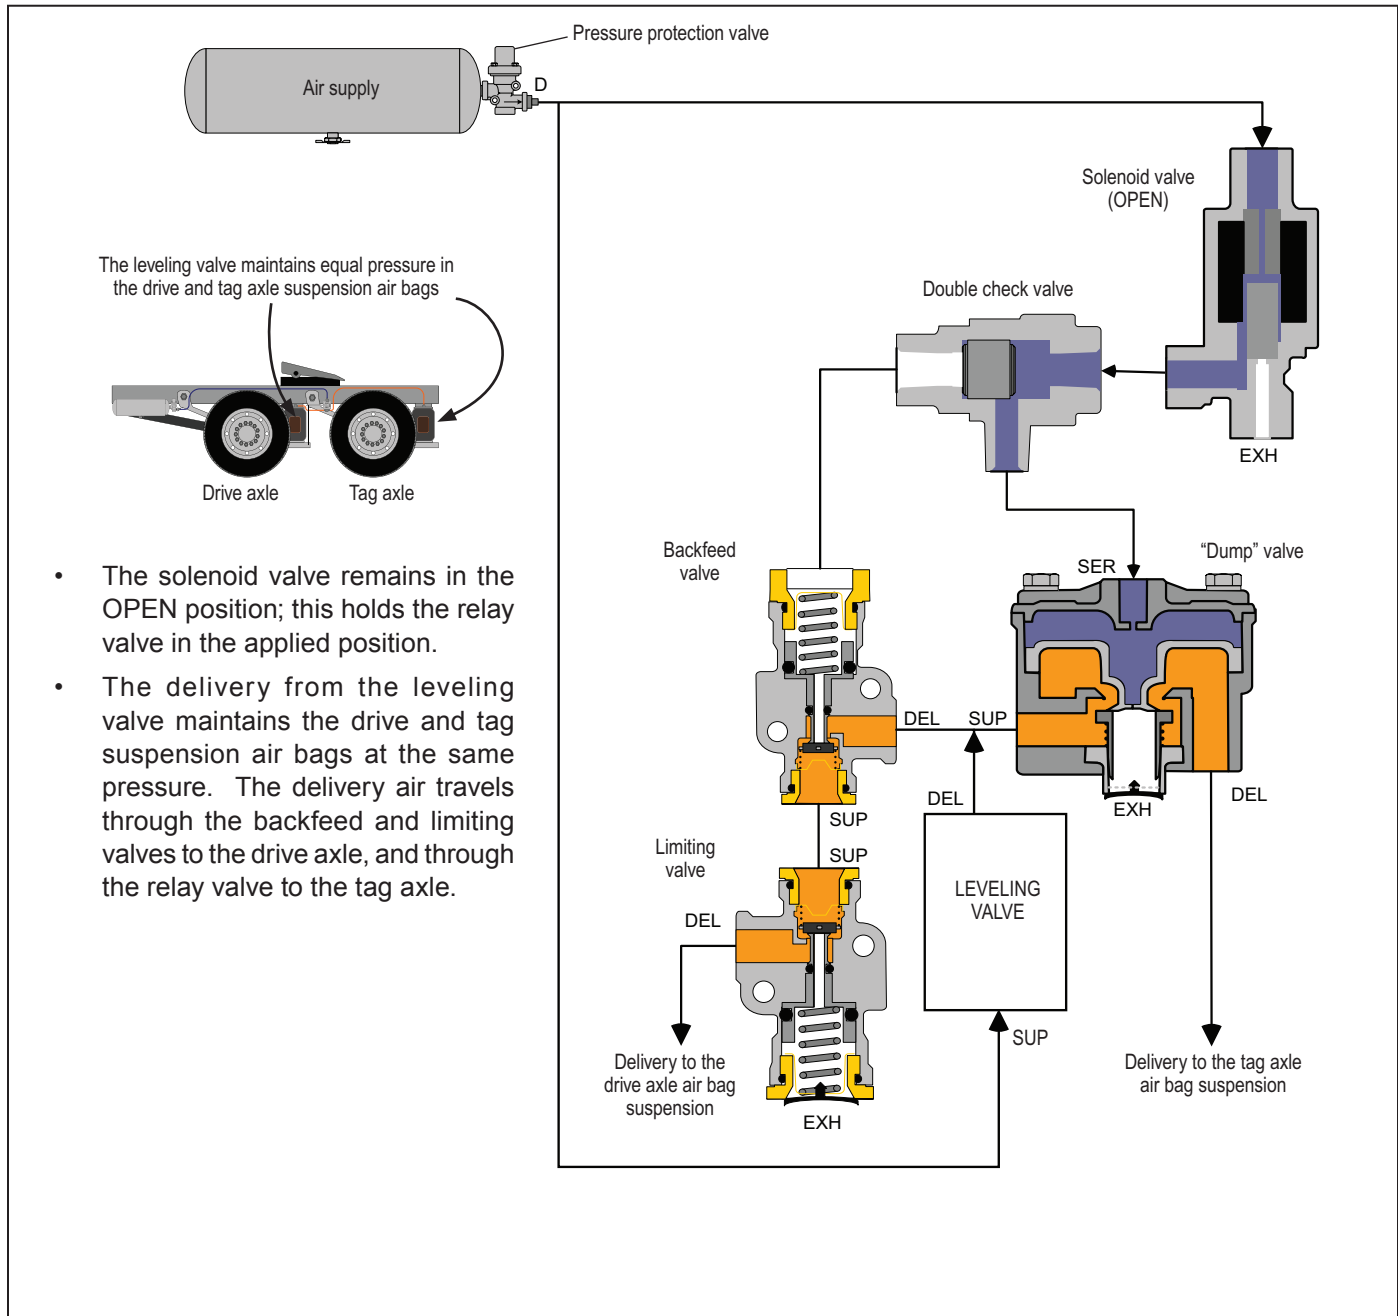

FIGURE 3 - BENDIX® eTrac™ SYSTEM NORMAL ("AUTOMATIC") MODE
- **Normal ("automatic") Mode** is ready whenever the vehicle is moving at less than 25 MPH. In this mode the system behaves just like a typical air suspension leveling system that adjusts for different loads by a mechanical leveling (height control) valve that adjusts all four rear suspension air bags as needed. *See Figure 3.*
See Figure 3.
When in *Normal Mode* the double-check valve allows the delivery from the solenoid valve to hold the tag axle suspension air bags open to the same pressure as the drive axle suspension air bags. *See Figure 3.*
Figure 3 shows the normal system position where the leveling valve controls the delivery of air to the rear axle air suspension bags.